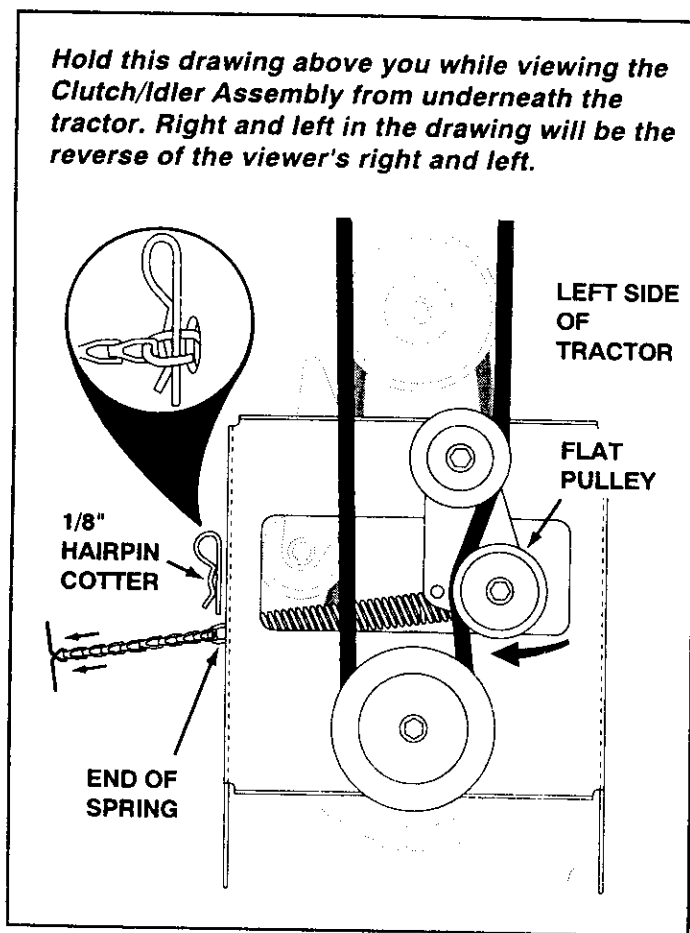

FIGURE 32
- Pull the tensioning chain until the end of the spring is pulled through the hole in the side of the Clutch/Idler assembly. Install the 1/8" hairpin cotter through the end of the spring, securing it on the outside of the Clutch/Idler assembly. See figure 32.